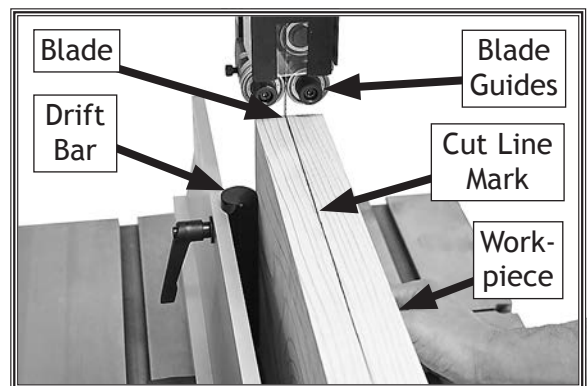

Figure 80. Resawing with drift bar.
6. Slowly feed workpiece into blade until blade is all the way through workpiece. Use drift bar as a pivot point to control cut, as shown in **Figure 80**.